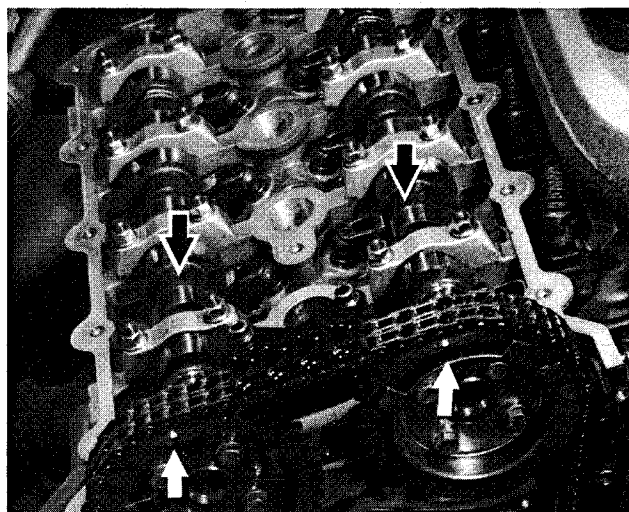

Fig. 10. Engine set to approximate TDC. Cylinder no. 1 camshaft lobes face in and arrows on sprockets point up (arrows).
25. Set engine to approximate TDC by rotating in normal operating direction until camshaft lobes at cylinder no. 1 are facing each other. See Fig. 10.